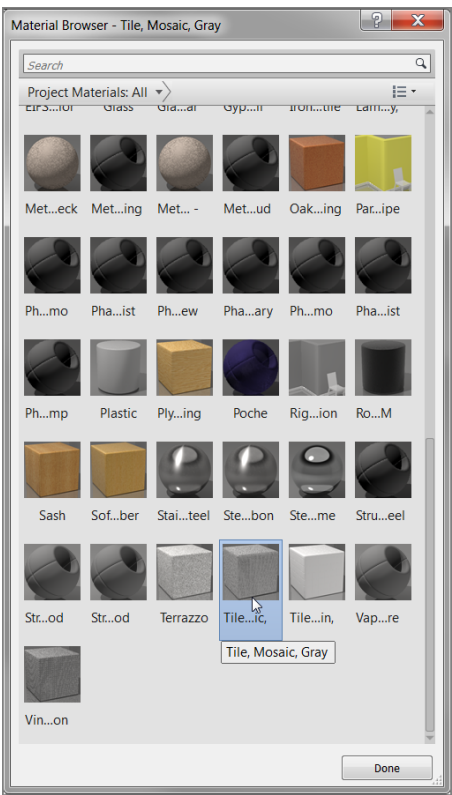

FIGURE 6.44: Finding the correct material
- 2. From the material list, select Tile, Mosaic, Gray from the menu, as shown in Figure 6.44.